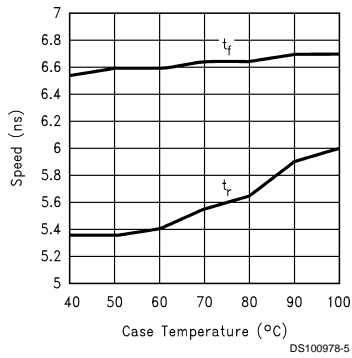

FIGURE 4. Speed vs Temperature
*Figure 4* shows the performance of the LM2415 in the test circuit shown in *Figure 2* as a function of case temperature. The figure shows that the rise time of the LM2415 increases by approximately 12% as the case temperature increases from 50°C to 100°C. This corresponds to a speed degradation of 2.4% for every 10°C rise in case temperature. There is a negligible change in fall time vs. temperature in the test circuit.